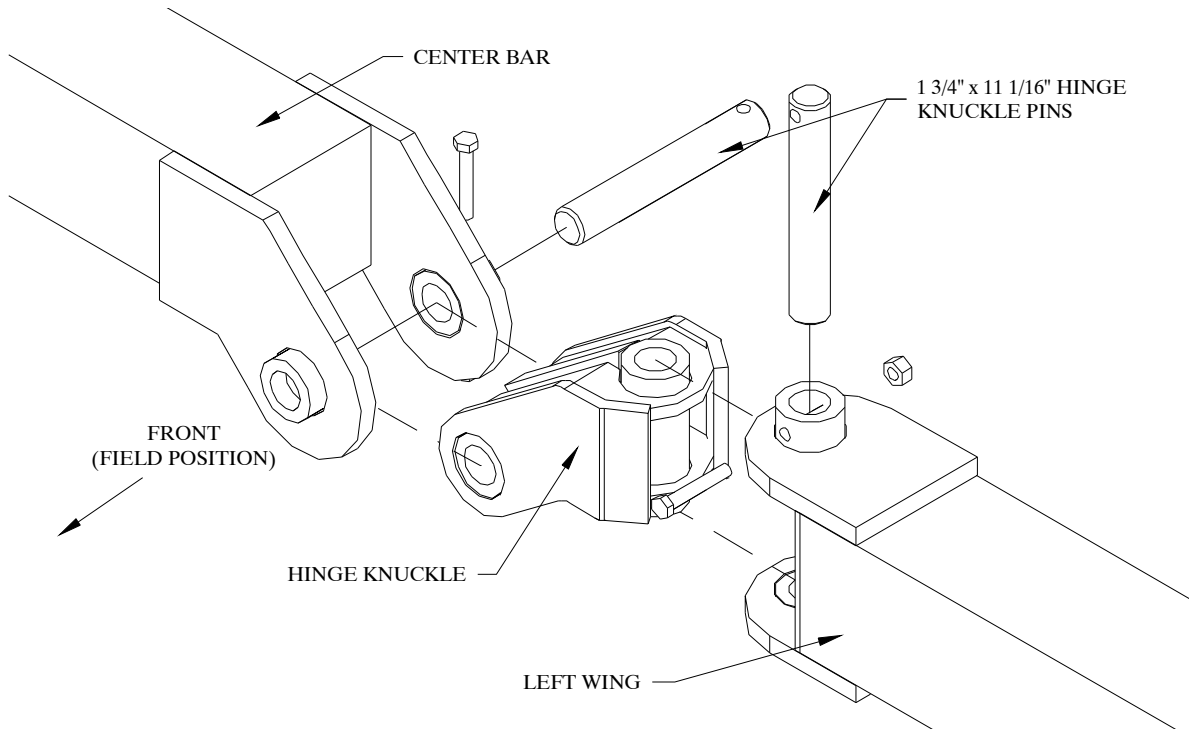

Figure 8
1. Attach the hinge knuckles to the center bar. Use 1 3/4" x 11 1/16" hinge knuckle pins, 5/8" x 4 1/2" grade 8 bolts, and locking hex nuts. Refer to Figure 8.